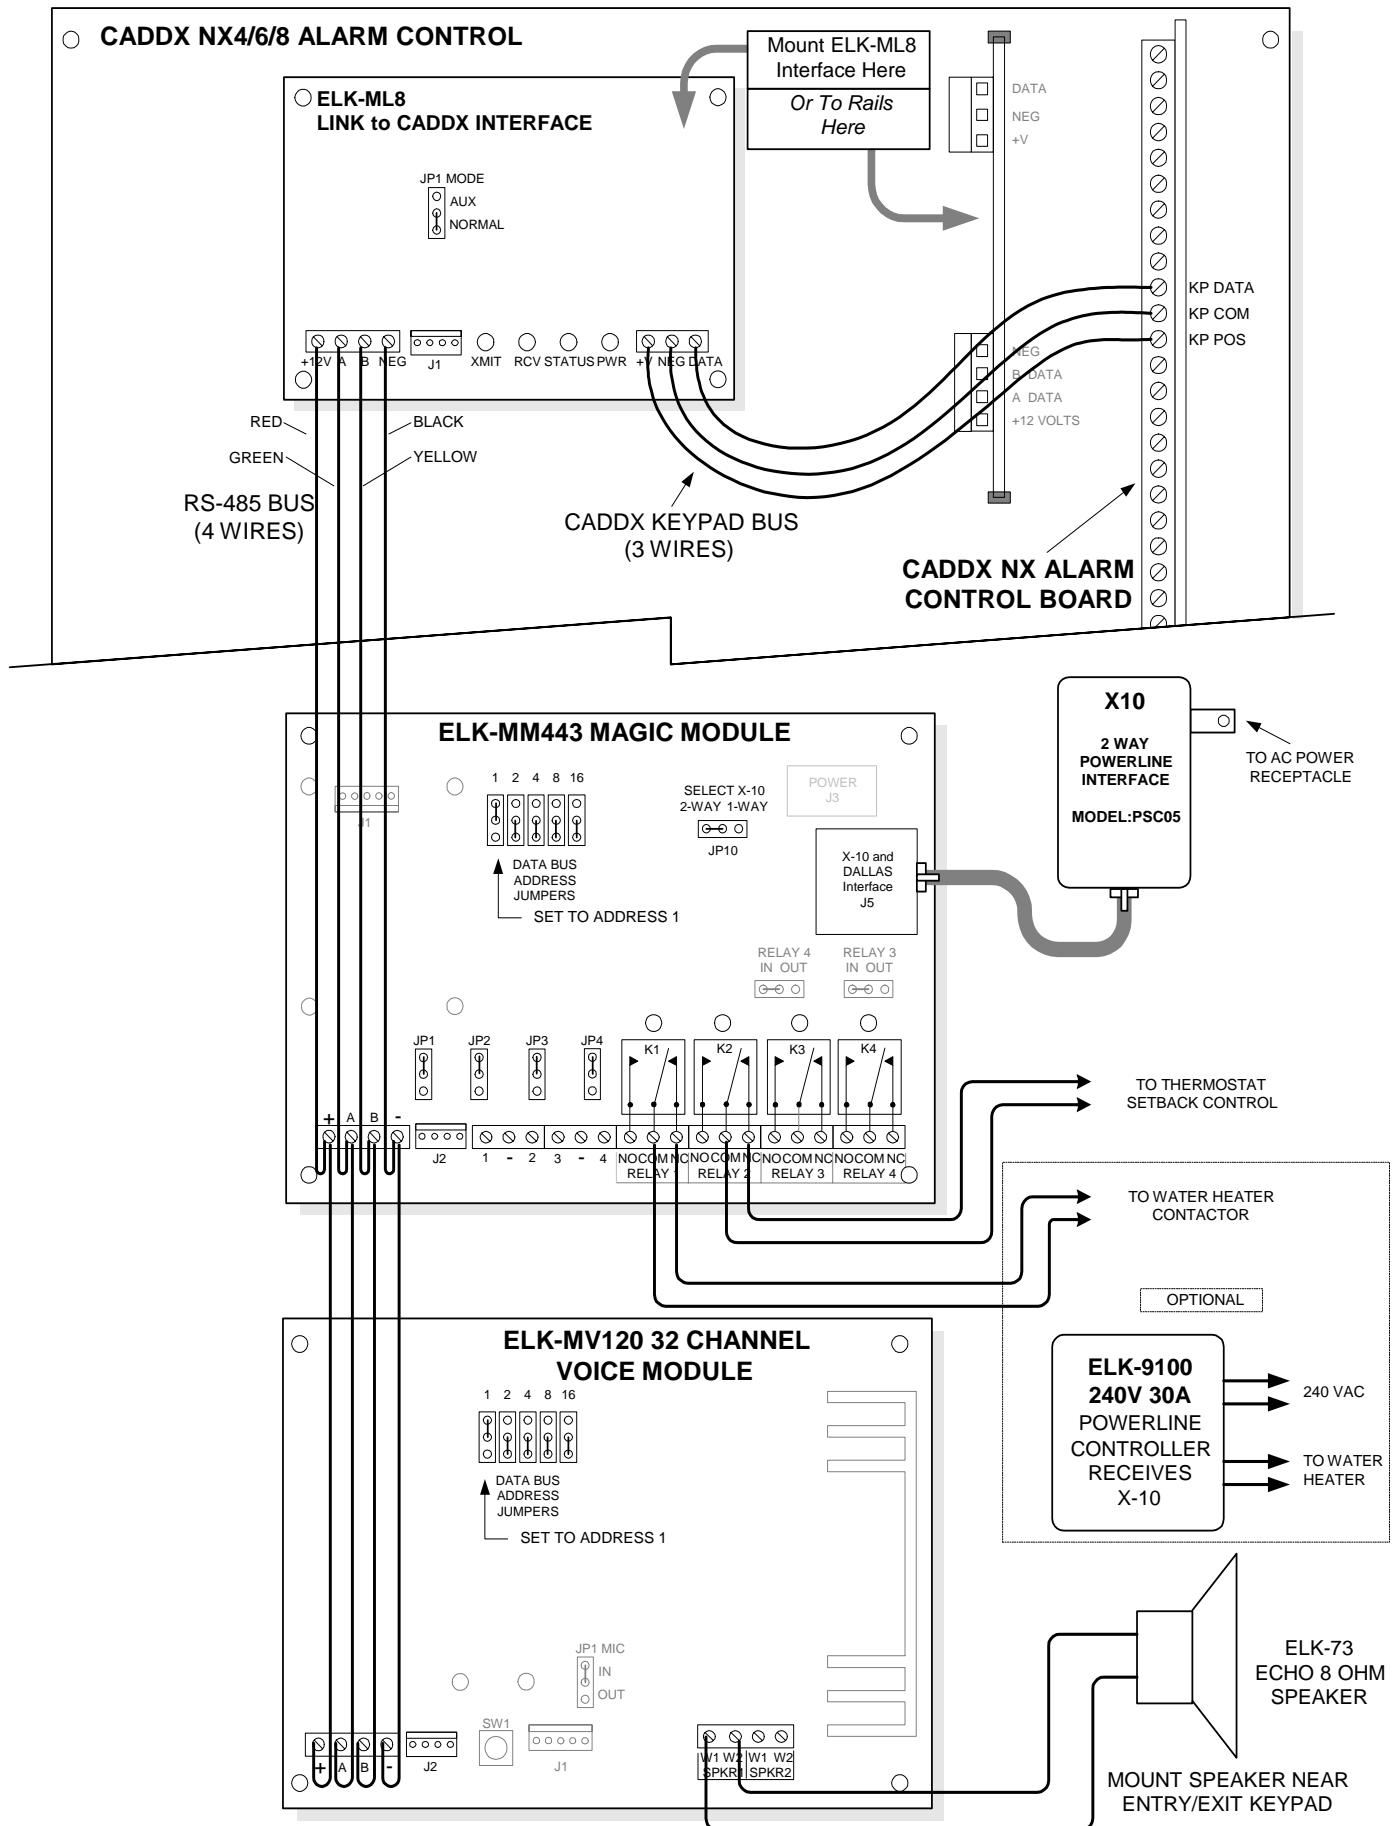

Figure 1: HomeControl Hookup Diagram
1. Mount the Link Interface Card in the NX cabinet and connect it to the keypad input (3 wires: Red, Green, and Black). See Figure 1 Hookup Diagram. This will centrally power all HomeControl components from the NX Control. If you prefer (or need) to power HomeControl from another source, leave off the Red +V wire from the keypad input to the ML8 and connect another DC power source to the +12V and Neg terminals of the Magic Module. Magic Module also has a power receptacle **J3** which accepts a plug-in 12Vdc (center pin positive) power supply such as the ELK-P1216 (sold separately).
2. Mount the Magic Module and Voice Annunciator and connect them to the ML8 using four (4) wires (Red, Green, White, and Black).
3. Mount the ECHO Speaker near the entry/exit keypad and connect it to the Voice Annunciator speaker terminals using two (2) wires.
4. Connect the four (4) wire modular telephone cord from the Magic Module J5 to the X-10 Transceiver Module (PSC05).